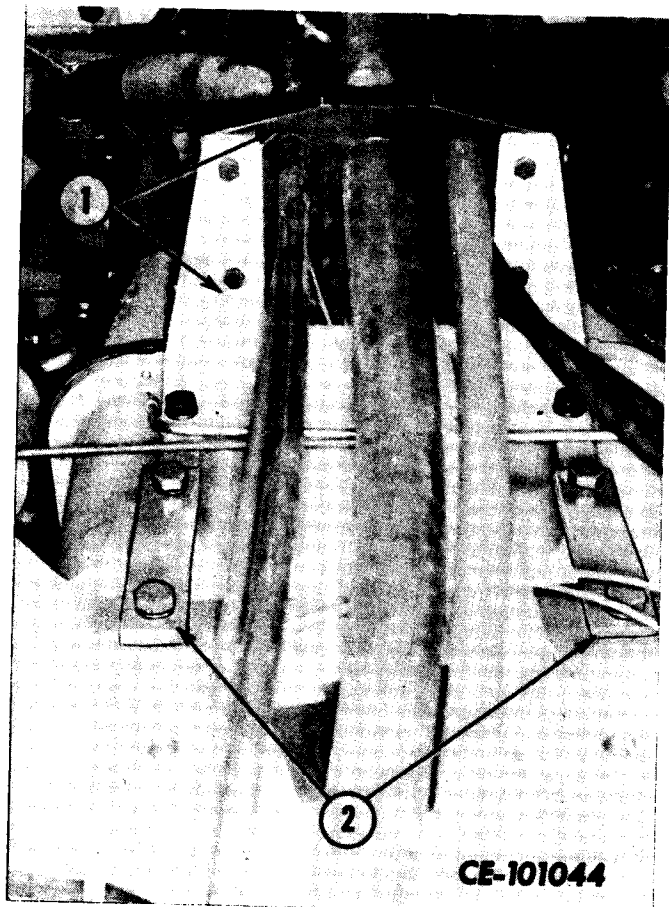

Figure 4-13
Remove mounting hardware securing hose pad (1, Fig. 4-13) to transmission and tie hose support and hoses out of the way. Remove hardware securing supports (2) to transmission. Remove supports and install special lifting eyes (refer to "SPECIAL TOOLS") in tapped holes on top of transmission.